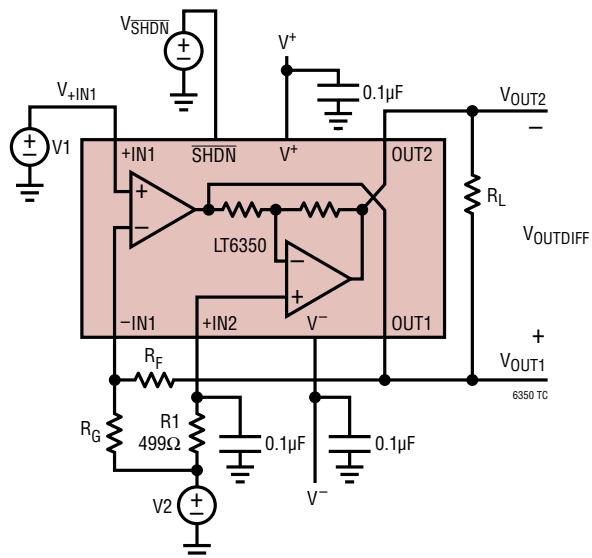

Figure 1. DC Test Circuit.
**Note 6:**  $V_{OS2}$  is measured as the total output common mode voltage offset (error between output common mode and voltage at  $V_2$ ).  $V_{OS2}$  includes the combined effects of op amp 2's voltage offset,  $I_B$ ,  $I_{OS}$  and mismatch between on-chip resistors and the  $499\Omega$  external resistor,  $R_1$  (See Figure 1).
$T_A = 25^\circ\text{C}$ ,  $V^+ = 5\text{V}$ ,  $V^- = 0\text{V}$ ,  $V_{+IN1} = V_2 = \text{Mid-Supply}$ ,  $V_{SHDN} = V^+$ ,  $R_F = \text{SHORT}$ ,  $R_G = \text{OPEN}$ ,  $R_L = \text{OPEN}$ . See Figure 1.